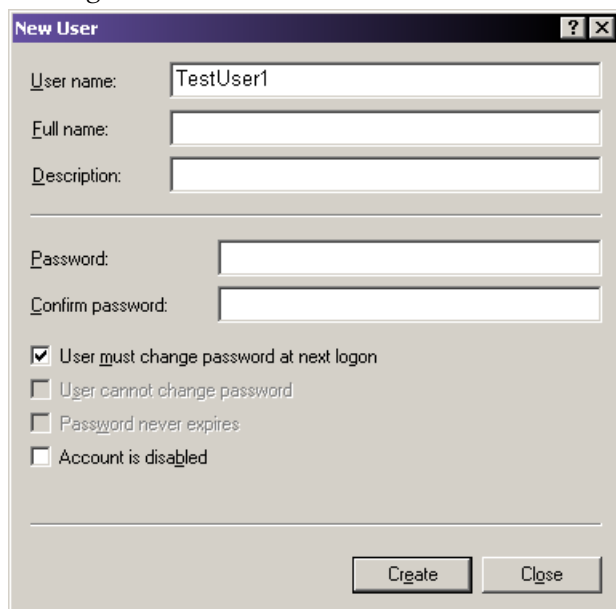

Figure 8.11 New Users Dialog Box
4. Right-click **Users** and select **New User**. The New User dialog box opens (Figure 8.11).